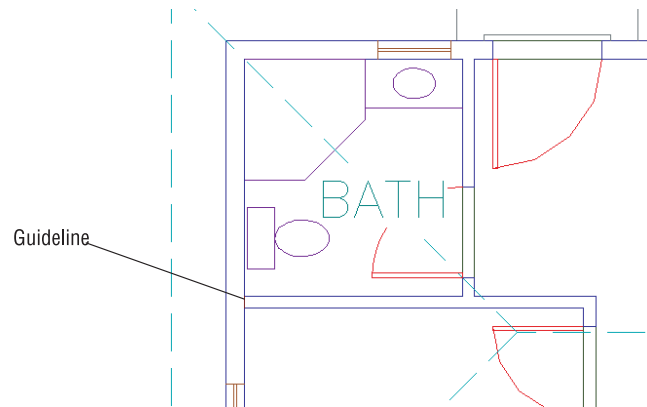

FIGURE 10.12: A guideline for drawing a grid line through one of the interior walls
6. Now you need to draw grid lines through the middle of the interior walls. Zoom in to the bathroom area, and draw a short guideline across the interior wall between the bathroom and bedroom, where this wall meets the exterior wall (see Figure 10.12).